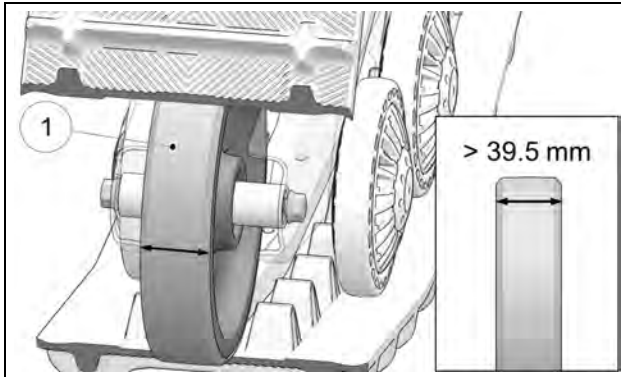

Figure 38
Verify wear on contact band (1) of 200-mm Wheels. The wheel must be replaced if the surface is worn out, cracked or has holes in it. A wheel that is excessively worn will not offer enough support for track guidance. Track guides may also wear prematurely. Figure 38.
Verify wear on guidance strips on both sides of 200-mm wheels. Replace wheel if it narrows to a width of 39.5 mm or less (42.5 mm when new). A wheel that is excessively worn will not offer enough support for track guidance. Figure 38.